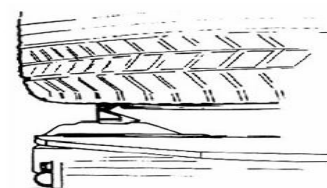

Fig 20
- 2- Put the tyre on the turntable, depress the corresponding pedal to close the jaws until they near the rim. (Fig 20)